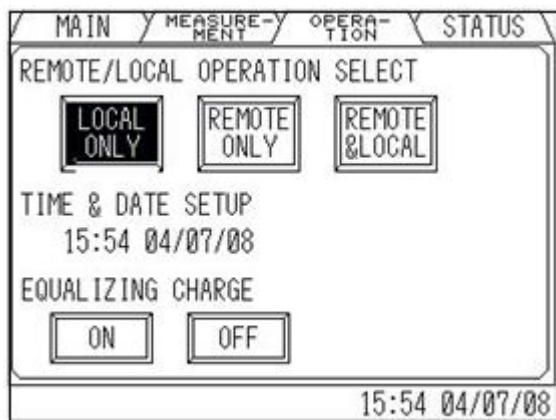
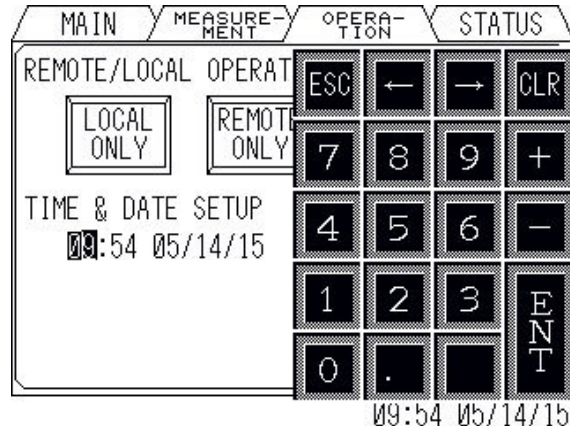

Figure 4-9 Remote/Local Operation Select
Figure 4-10 Date & Time Adjustment
C) OPERATION MENU (Figure 4-9 and Figure 4-10)